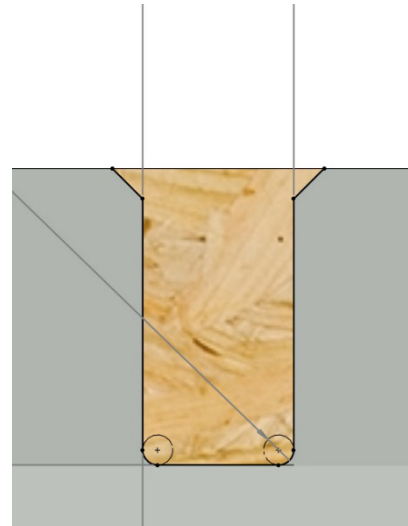

Figure 11 – Upstand drill section.
2. Drill 2 No. 10mm holes as indicated, jigsaw out remainder of shape leaving radiused corners at bottom. Chamfer top corners as shown to aid installation – *see figure 11*.